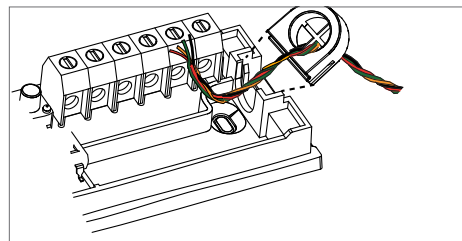

Figure 3.3: Wiring
1. Insert the wire through the grommet (removable). Refer to Figure 3.3.